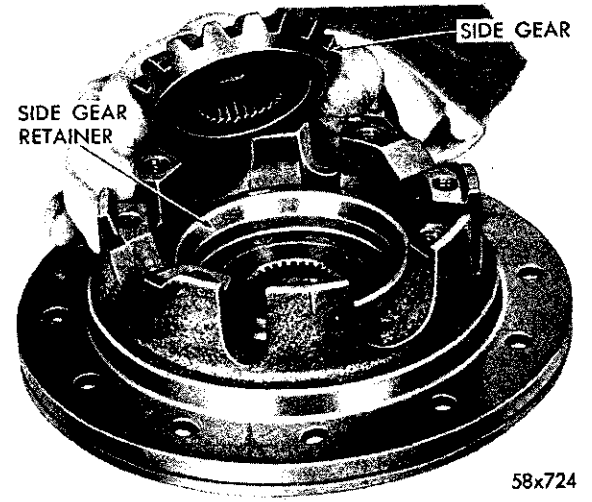

Fig. 38—Removing or Installing Side Gear from Differential Case
(5) Remove the remaining side gear (Fig. 38), the